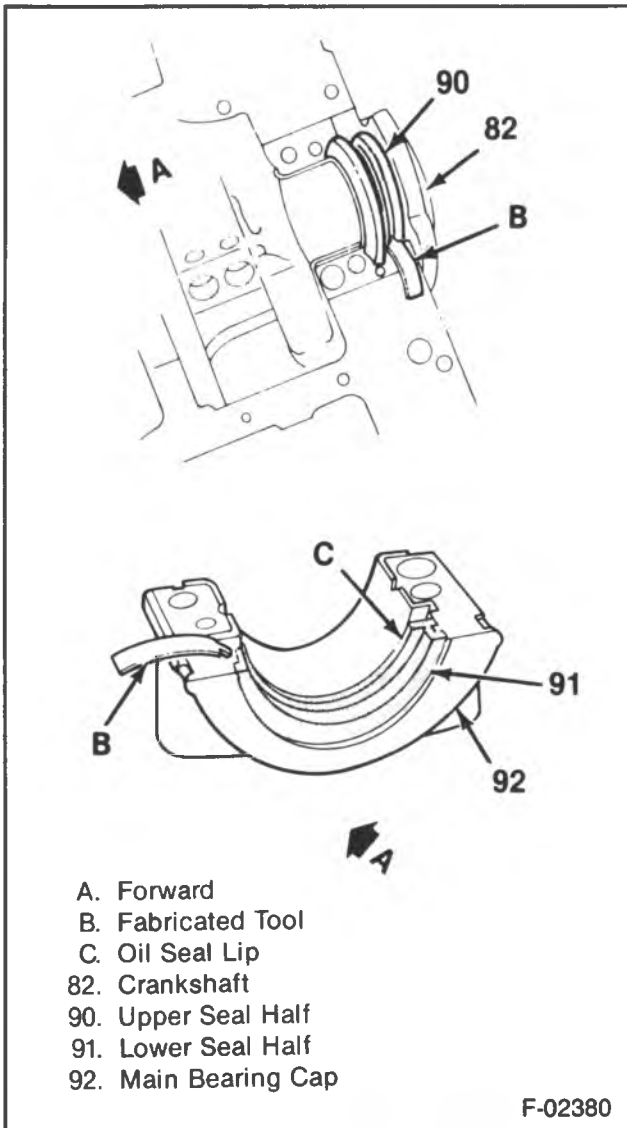

Figure 21 — Installing the Rear Crankshaft Oil Seal
- Position the tip of the tool between the crankshaft and the seal seat in the block (figure 21).
- Insert the seal half into the rear main bearing cap. Use the tool to protect the seal half from the sharp edge of the seal seat. Feed the seal half into the rear main bearing cap, using light finger pressure. Make sure the oil seal lip faces the front of the engine (figure 21).